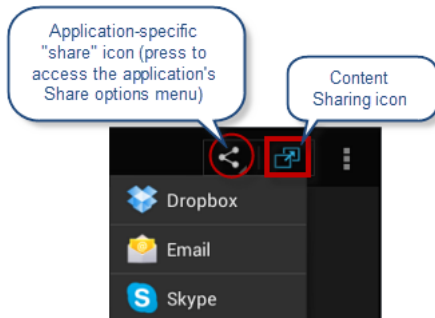

FIG. 121 Application "Share" icon, and Content Sharing icon (as displayed in an Image View page)
- Some applications provide their own "sharing" functions, which are not necessarily the same as the Content Sharing feature used to share with Enzo units. For example, at the top of the Image View page, there is an application-specific "Share" icon. When pressed, this icon presents a menu to select another application to use for sharing the file (FIG. 121). Note that *Content Sharing* is not available via this menu.
- Some applications may also present the Content Sharing icon in multiple places. Anywhere that the Content Sharing icon is presented, it can be pressed to invoke Content Sharing with an Enzo. The example in FIG. 121 shows that the Content Sharing icon is displayed at the top of the window next to the application's "Share" icon. Content Sharing can be invoked either via this icon or the Content Sharing icon presented in the G5 Menu Bar at the bottom of the window.